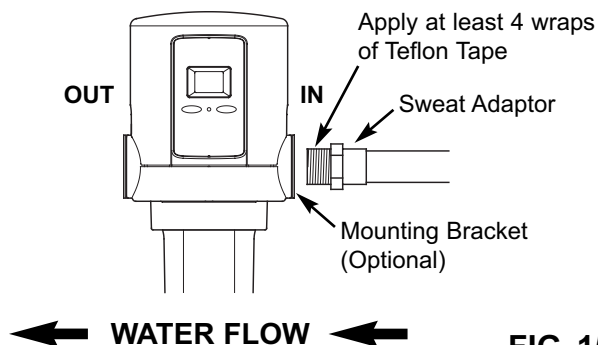

FIG. 15
5. After it cools, apply at least 4 wraps of Teflon tape to the threads on the sweat adaptor fitting (See Figure 15).
6. With the **IN** side of the water filter **toward incoming water**, carefully, turn the filter head onto the sweat adaptor fitting (See Figure 15). Do not cross-thread, or overtighten and crack the filter head. If necessary to provide clearance to rotate the filter head, temporarily remove the sump / screen assembly.